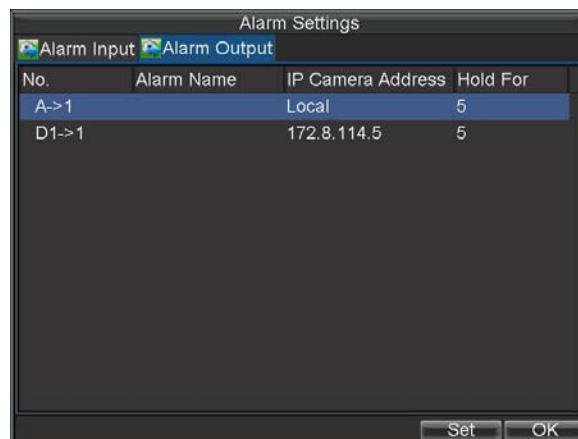

Figure9. Alarm Output Interface
1. Select the **Alarm Output** tab. This will bring up the Alarm Output interface, shown in Figure 9.